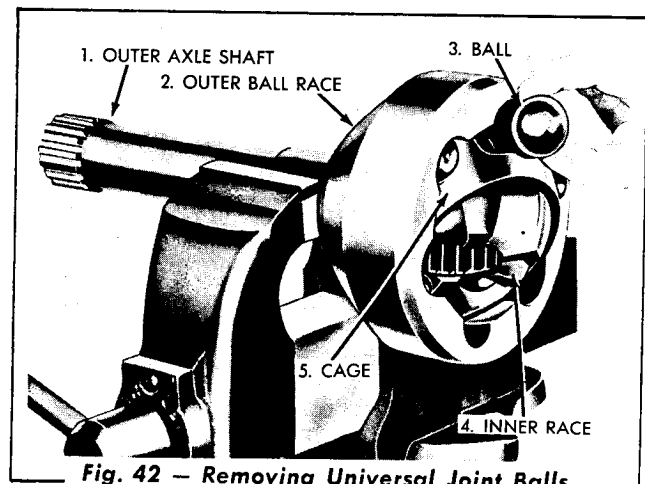

Fig. 42 — Removing Universal Joint Balls
- a. Place the axle shaft into a bronze jawed vise (Fig. 42). Turn the inner race in the outer race bell until one of the joint balls can be lifted out. Continue turning the race until all of the balls are removed.
- c. Install the joint balls into the inner race and the cage (Fig. 42), tilting the race and cage each time so that another ball can be inserted.